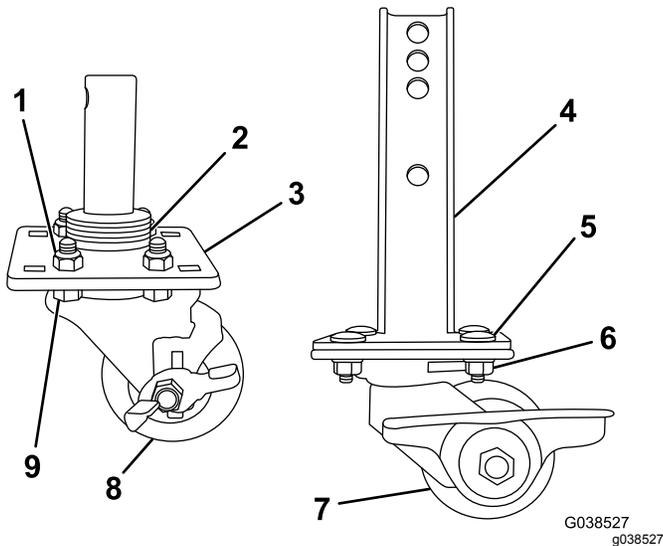

Figure 1
- Assemble the casters as shown in Figure 1.